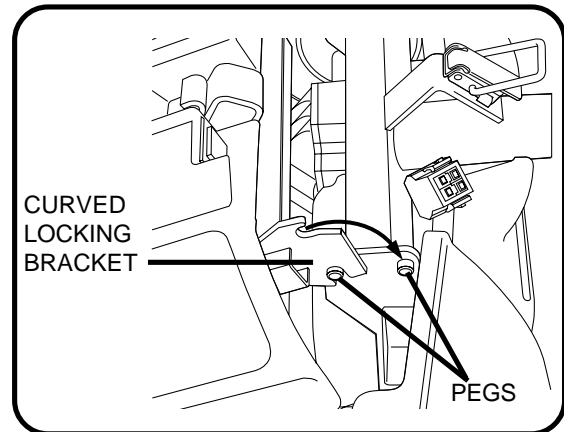

Figure 17. Frame Lockup
3. Lift the front section up until the lower pegs are no longer in the curved locking brackets. **See figure 17.**
2. Align the lower curved locking brackets of the front section with the corresponding pegs on the front of the rear section. **See figure 17.**